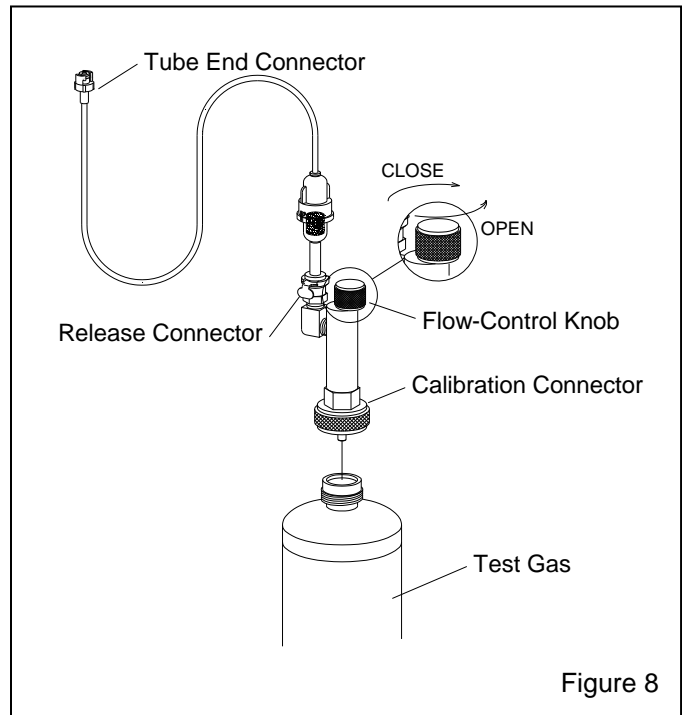

Figure 8
4.4.8 Make sure the flow-control knob is turned fully clockwise to the CLOSED position. Refer to Figure 8.